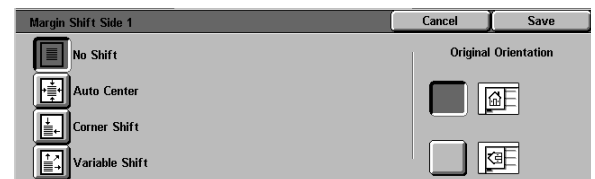

Figure 17: Margin Shift screen with No Shift selected
- 3 Touch the **No Shift** button, as in Figure 17.